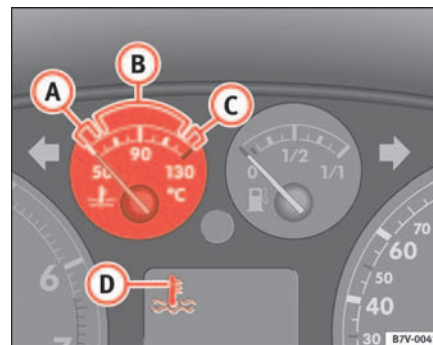

Fig. 45 Details of the instrument panel: Engine coolant temperature gauge
Avoid high engine speeds and heavy engine loads ⇒ fig. 45 ②.